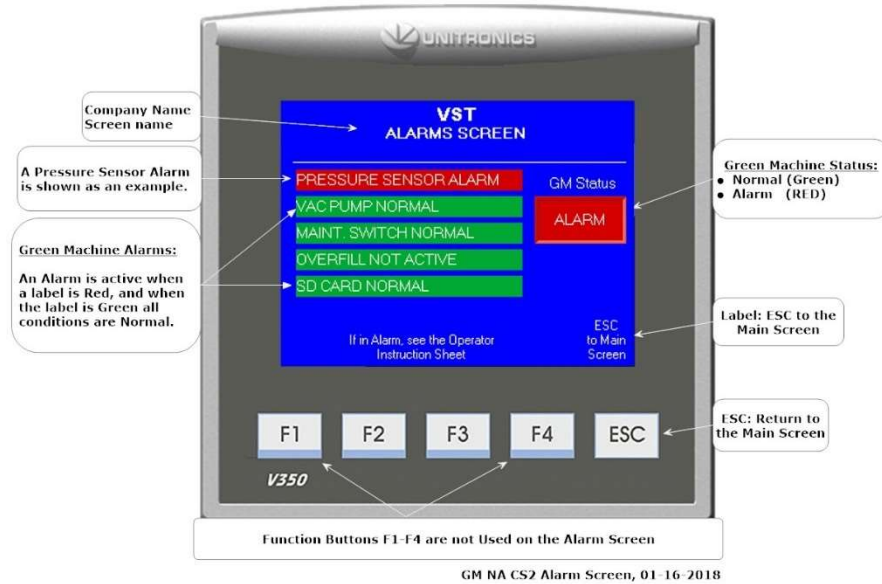

Figure 8-17: GREEN MACHINE Controller Alarm Screen
- A VST Control Panel Controller Overfill Alarm is Active when the Fuel Management System Overfill Alarm is Active. **See Figure 8-17.**